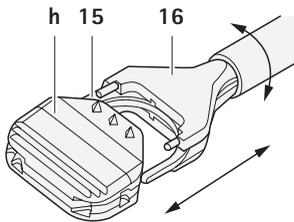

Fig. 17 Coupling for anterior access (0°)
- ▶ Put the intervertebral disc prosthesis **h** onto clamp **16** of the insertion instrument, observing the marking on the insertion instrument, see Fig. 17. The inferior prosthesis plate must abut the part of the insertion instrument clamp **16** marked "CAUDAL"; the superior prosthesis plate must abut the part marked "CRANIAL".